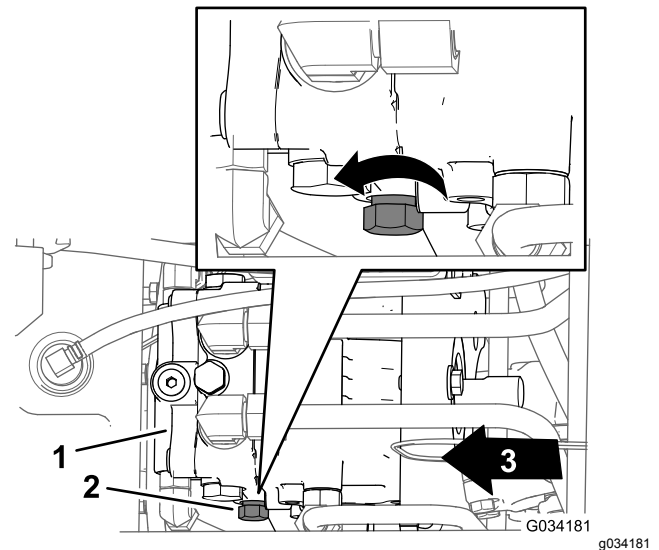

Figure 29
3. Rotate the control knob 3 turns counterclockwise (Figure 29).
2. Locate the control knob for the bypass valve at the left side of the hydraulic pump (Figure 29).
3. Rotate the control knob (Figure 29) clockwise until you feel resistance, indicating that the bypass valve is closed.